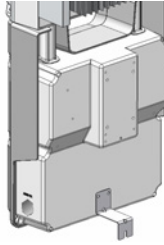

**Figure 14: Hanging units**
- Align the two indentations in the enclosure with the two triangular mounting tabs of the bracket, and lower the unit until it rests on the bracket evenly (see *Figure 14*).